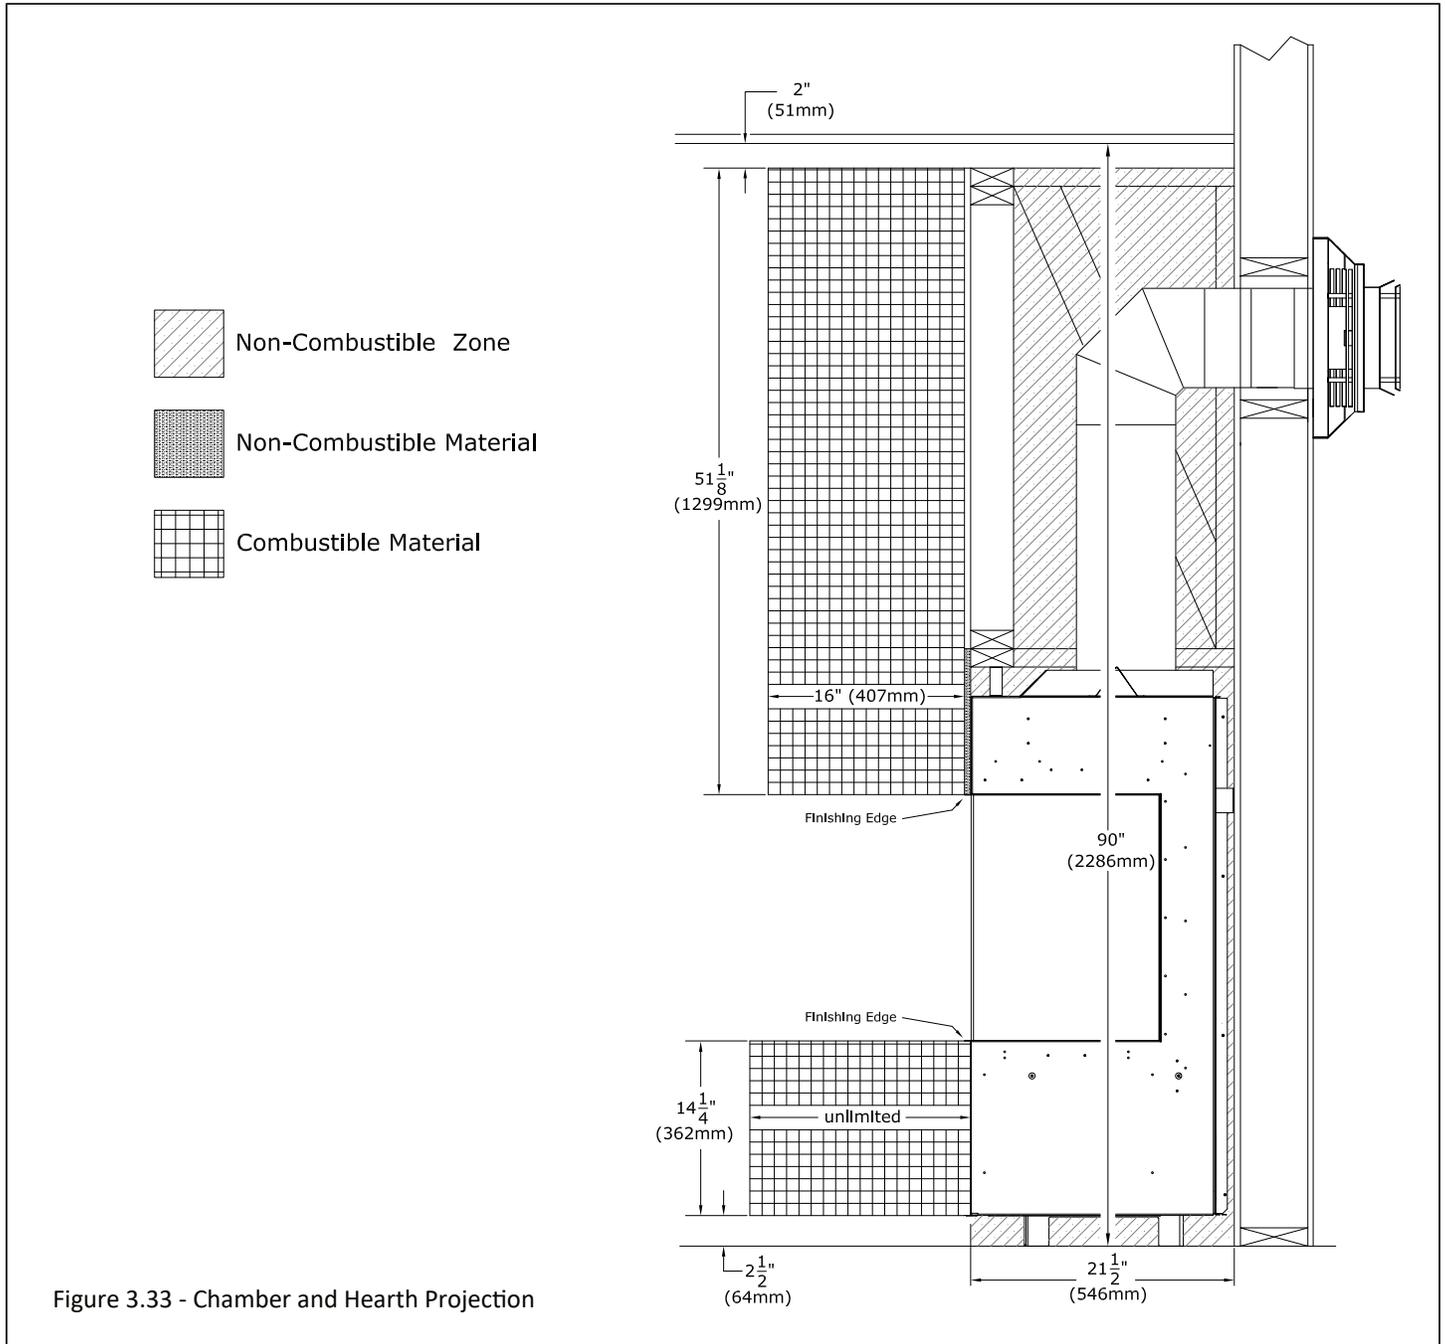

Figure 3.33 - Chamber and Hearth Projection
- **Combustible Chamber Projections:** A maximum of a 16" (406mm) chamber projection can be installed flush at the side and top finishing edge of the fireplace. See Figure 3.33.
Figure 3.33 shows a 16" front chamber projection with a vented cavity. The air intake and heat release openings of the fireplace chamber must maintain their clearances for the option you have chosen throughout the entire fireplace chamber and projection. The hearth projection is unlimited.